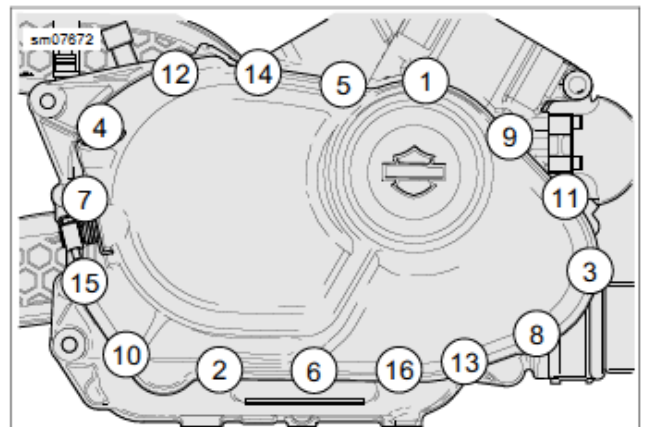

Figure 4-35. Tightening Sequence
- a. See figure 4-35. Follow tightening sequence.